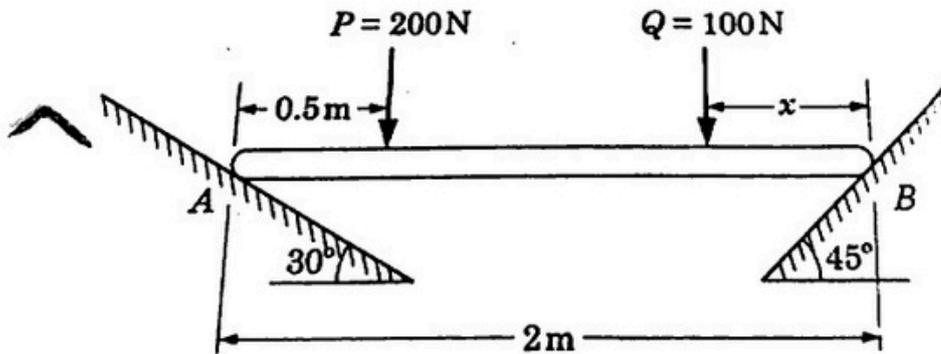

Fig.6.
- Q5 A horizontal bar 1m long and of negligible weight rests on rough inclined planes as shown in Fig.6. Determine the minimum value of x at which the load $Q = 100\text{N}$ may be applied before slipping impends. Coefficient of friction between the horizontal bar and the rough inclined planes is 0.2. (10)